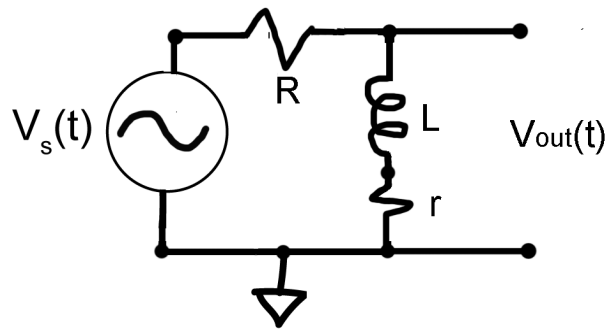

Figure 6.2.
Q.3 Design a LR high-pass filter with $f_{3\text{dB}} = 8.0 \text{ kHz}$ (Figure 6.2). Include a SCREENSHOT from the oscilloscope of the rough performance that shows that the 3dB point is within design criteria. A nice way to accomplish this is with an image of the frequency sweep.